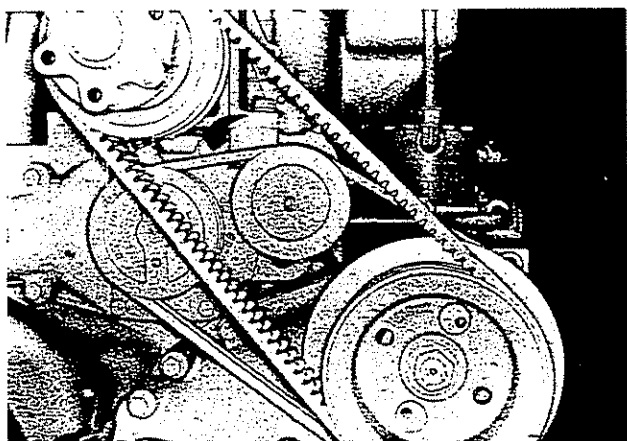

Fig. 2-5, (N11974). Water pump — with idler
1. Loosen the capscrews and lockwashers or locknut securing the idler pulley to the bracket or water pump. Fig. 2-5.